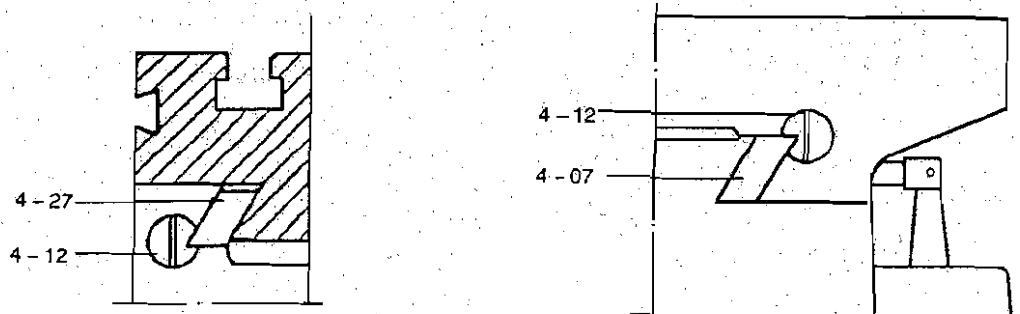

Fig. 3
- (1) Your ZX30 is equipped with full length tapered sliding plate (4-37) to adjust for excess slack in fore and aft left and right table travel.
- (2) Tighten the sliding plate bolt (4-12) clockwise with a big screw driver for excess slack.
- (3) Release the sliding plate bolt a little counterclockwise if too tight.
- (4) To adjust left and right travel, adjust the sliding plate bolt until feel a slight drag when turning the table. (Fig. 3).
- (5) To adjust fore and aft travel, adjust the sliding plate bolt as shown in Fig. 3